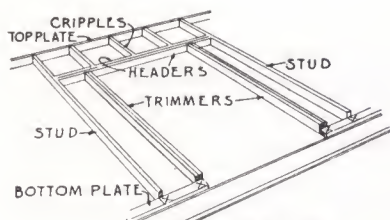

FIGURE 29
- (i) The Trimmers are to be framed in next. Mark the headers for the location of the trimmers. The correct measurements will be found on the **FRAMING ELEVATIONS**. Set the trimmers against the markings on the header and spike in place, driving the nail through the header into end of the trimmer (see Fig. 29). This completes the framing of the door opening.